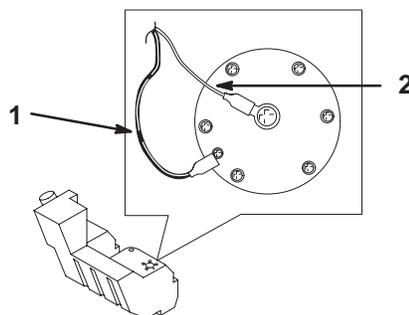

**Figure 41**
on a regular basis. When the debris is one to two inches deep, complete the following procedure (refer to Figure 41 throughout this procedure):
4. Remove the bolts, washers, and lock washers securing the two side weights, removing the weights (Fig. 41).
6. Remove the three carriage bolts and washers from the battery base and the fuel tank bracket, removing the bracket (Fig. 41).
7. Remove the six nuts and bolts securing the rear panel, removing the panel (Fig. 41).
10. Slide the fuel tank to the rear (Fig. 41).
16. Slide the fuel tank part way into the chassis (Fig. 41).
21. Replace the rear panel and secure it with the six bolts and nuts removed previously (Fig. 41).
22. Place the fuel tank bracket over the tank and secure it and the battery tray with the bolts and washers removed previously (Fig. 41).
23. Install the side weights with the bolts, washers, and lock washers removed previously (Fig. 41).